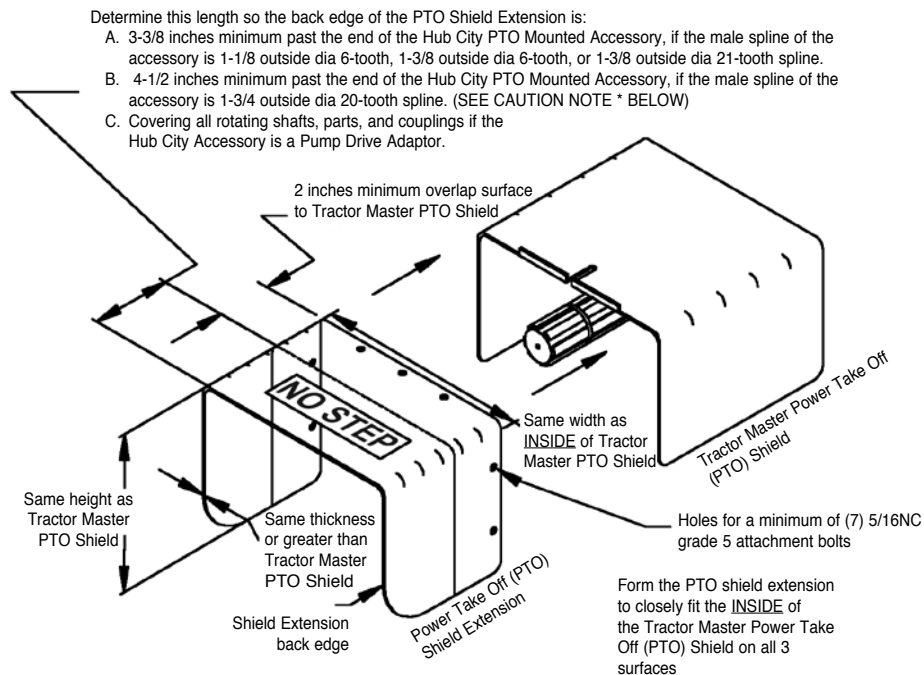

Figure No. 1
The tractor to which you will be mounting this Hub City Power Take-off (PTO) accessory, must be equipped with an ASAE approved Tractor Master Power Take-Off (PTO) Shield supplied by the tractor manufacturer or constructed to American Society of Agricultural Engineers Standards and a Power Take-Off (PTO) Shield Extension as identified below and in Figure No. 1. If the tractor will not have these two (2) shields, **DO NOT** mount or use this PTO accessory.
Your PTO driven implement **MUST BE** equipped with a shielded drive line at all times when using this Hub City power take-off accessory! If your PTO driven implement drive line is equipped with a tunnel type drive line shield that is attached to the drive line pedestal on the implement and attaches to the slot and tang on the tractor master power take-off (PTO) shield, that allows the tunnel shield to telescope as you turn corners, **DO NOT** use the implement with this or any other Hub City PTO accessory. The tractor master power take-off shield extension shown in Figure No. 1, covers the tractor master power-take off shield slot and tang and will not allow the attachment of the tunnel type drive line shield.
A generic guideline for the dimensional size & construction characteristics of a PTO shield extension are shown in Figure No. 1: